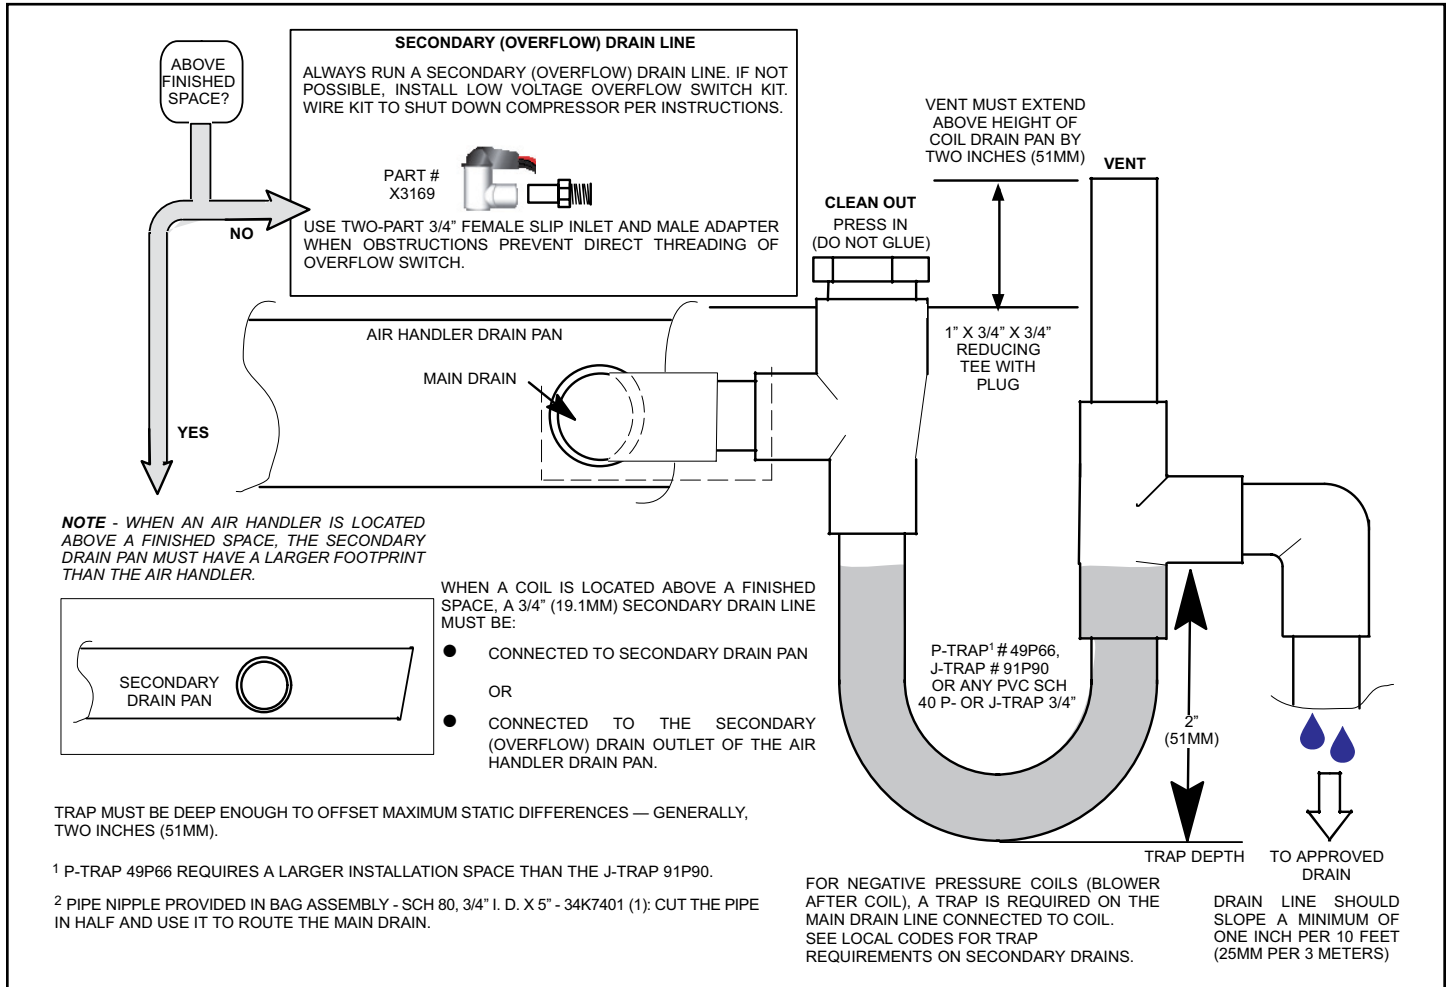

Figure 10. Typical Main and Overflow Drain
7. Install a 2" trap in the main (primary) drain lines as close to the unit as practical (see figure 10). Make sure the top of the trap is below the connection to the drain pan to allow complete drainage of the pan.
NOTE: Horizontal runs must have an anti-siphon air vent (standpipe) installed ahead of the horizontal run. See figure 10. An extremely long horizontal run may require an oversized drain line to eliminate air traps.